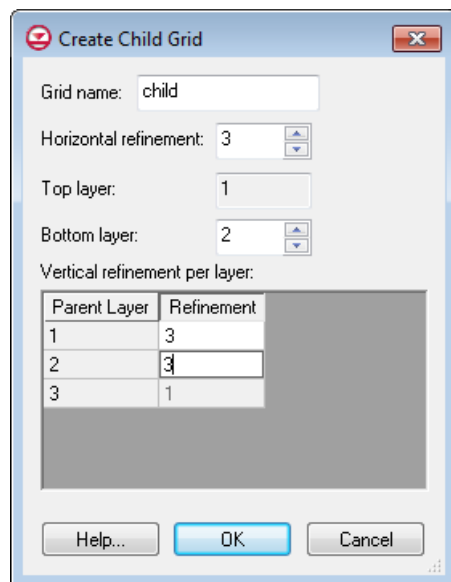

Figure 3 Create Child Grid dialog
6. Set the options as shown in Figure 3. Set the *Bottom layer* to “2.”